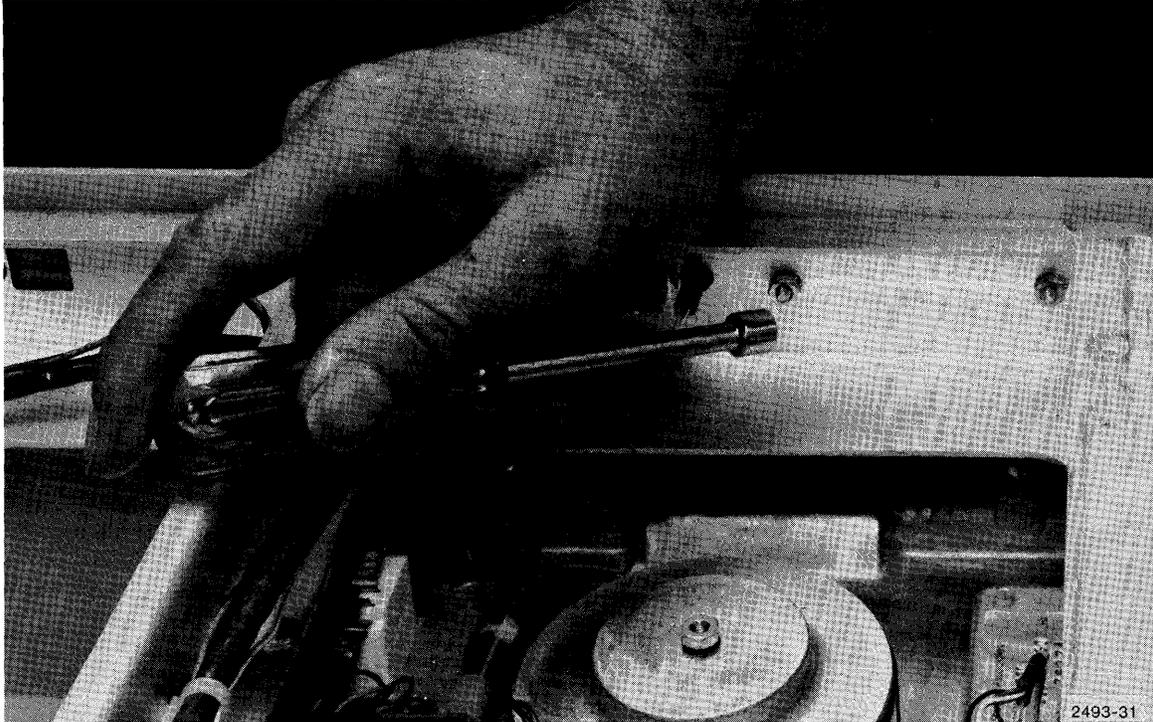

Figure 7-5. Removing front panel.
- i. Remove front panel from unit by removing eight nuts (Figure 7-5).